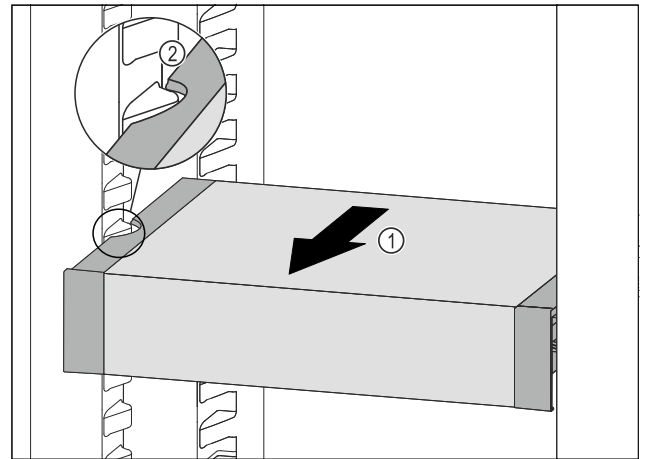

Fig. 72
- ▶ Pull VarioSafe forwards *Fig. 72 (1)* until the recesses in the side of the VarioSafe are at the level of the support rib in the refrigerator compartment. *Fig. 72 (2)*